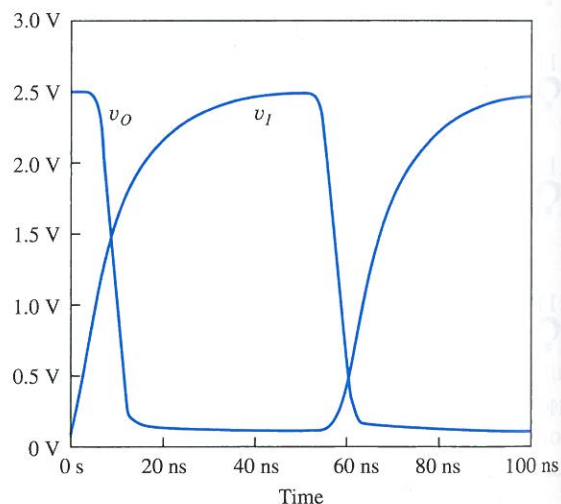

Figure P6.135
- 6.135. The graph in Fig. P6.135 gives the results of a SPICE simulation of an inverter. (a) What are the rise and fall times for v_I and v_O ? (b) What are the values of τ_{PHL} and τ_{PLH} ? (c) What is the average propagation delay for this gate?